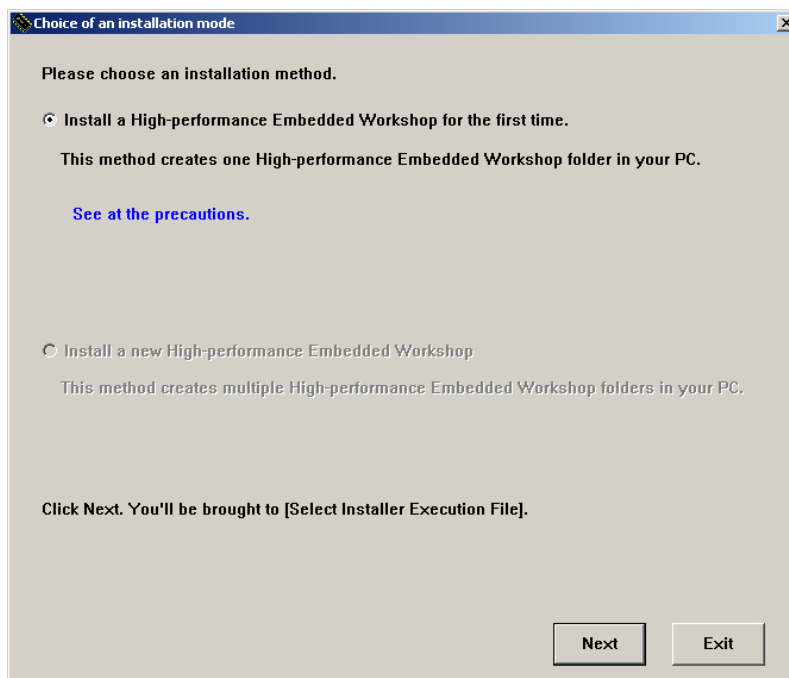

Figure 3.1.2 Installation Procedure (2/4)
(2) Following dialog box will appear as Figure 3.1.2. Click "Next".